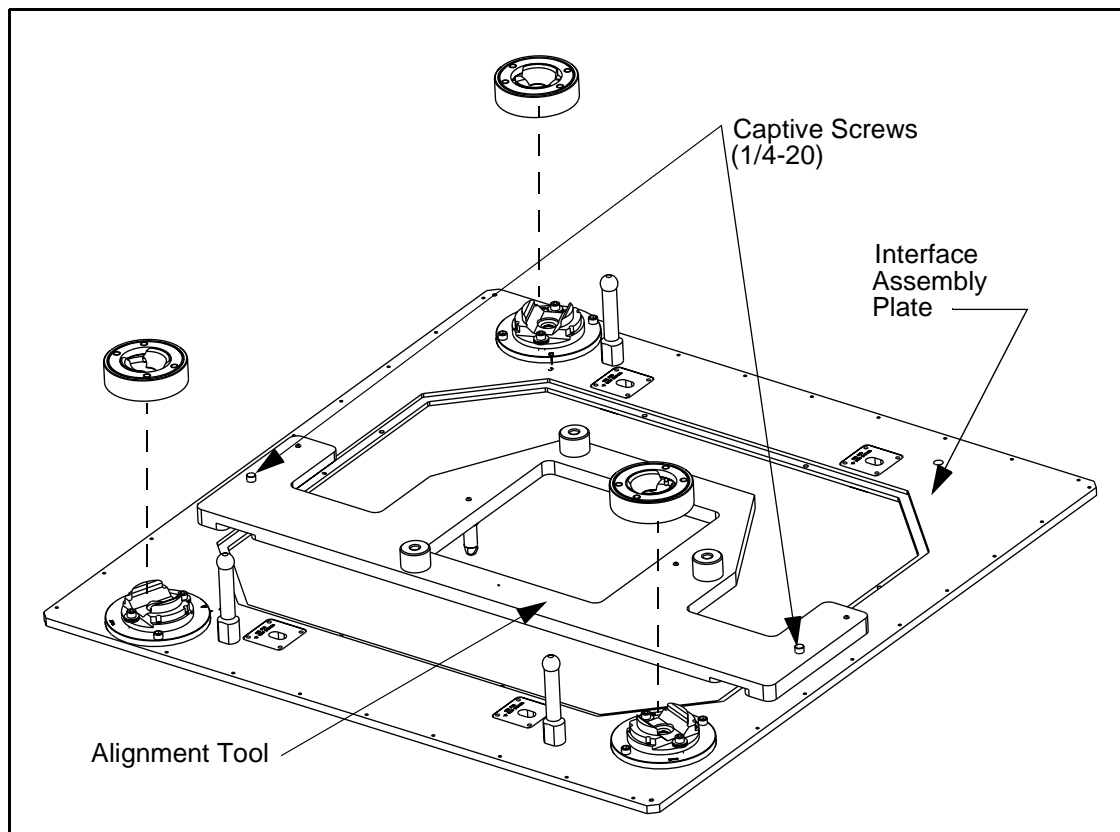

Figure 3 Mounting the Alignment Tool to the Interface Assembly Plate and Removing V-Groove Covers
- 5) Position the alignment tool on the interface assembly plate so the two pins in the alignment tool mate with the hole and slot in the interface assembly plate. See Figure 3.
- 6) Secure the alignment tool to the interface assembly plate by using the 1/4-20 captive screws (tighten to 70 inch-lbs.) (see Figure 3).